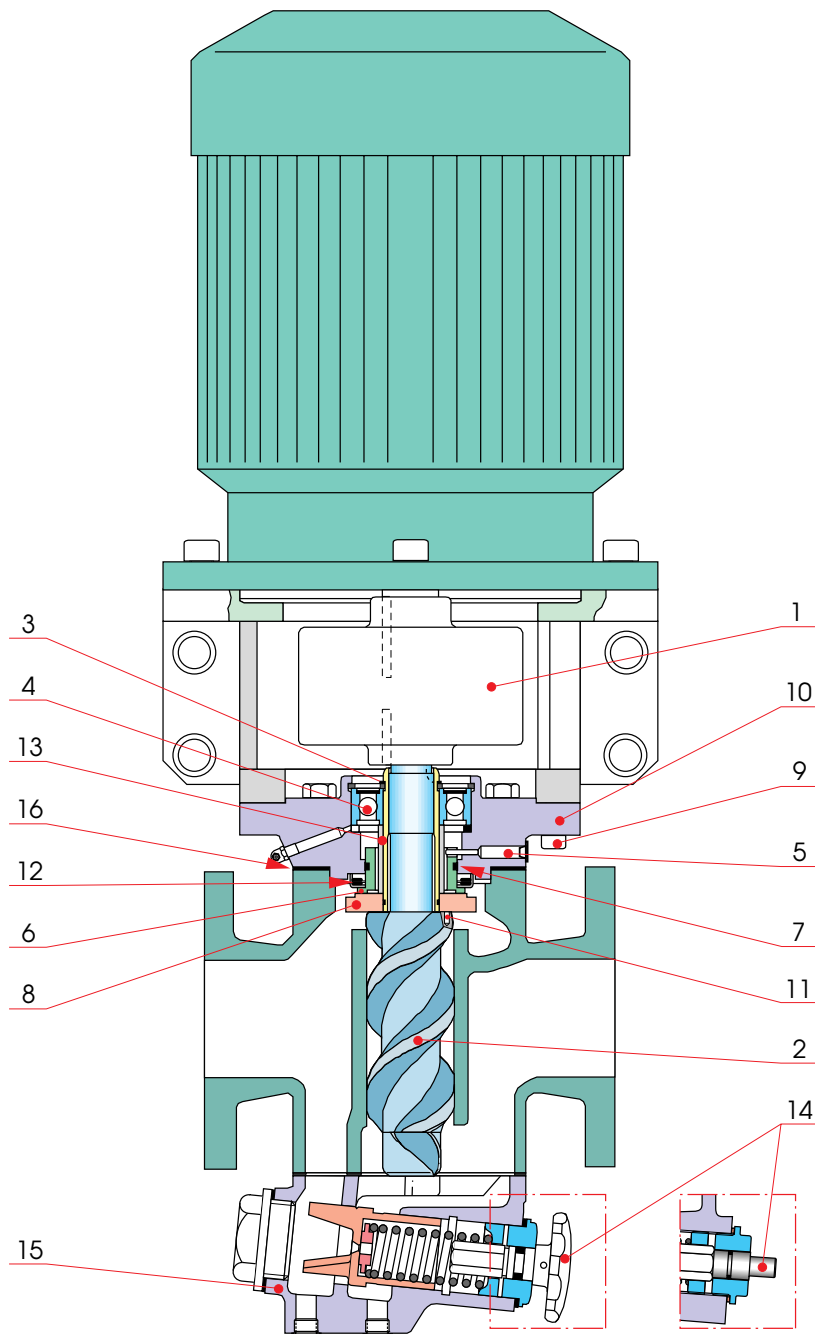

Fig 18-9
The pump is of the screw type, driven by an electric motor. The pump is provided with an adjustable pressure control valve (15), Fig 18-9. The pressure should be limited to the min. value, about 2 bar, by unscrewing the adjusting screw (14) to the end position in order to prevent the electric motor from being overloaded when running with very cold oil.